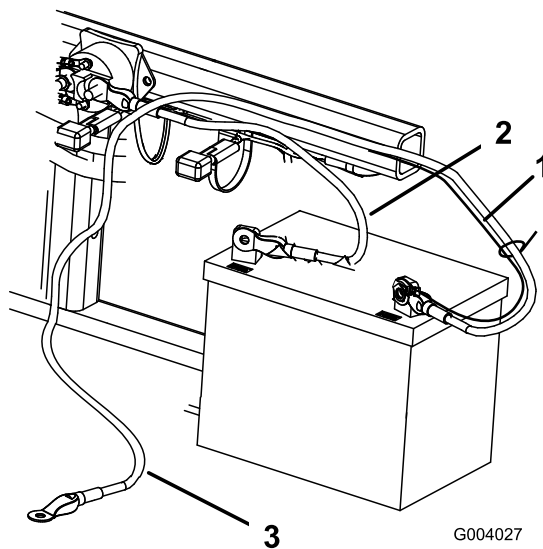

Figure 5
2. Secure the positive cable (red) to the positive (+) terminal with a bolt (1/4 x 5/8 inch) and a locknut (Figure 5).
3. Secure the small black wire and the negative cable (black) to the negative (-) terminal of the battery with a bolt (1/4 x 5/8 inch) and locknut (1/4 inch) (Figure 5).